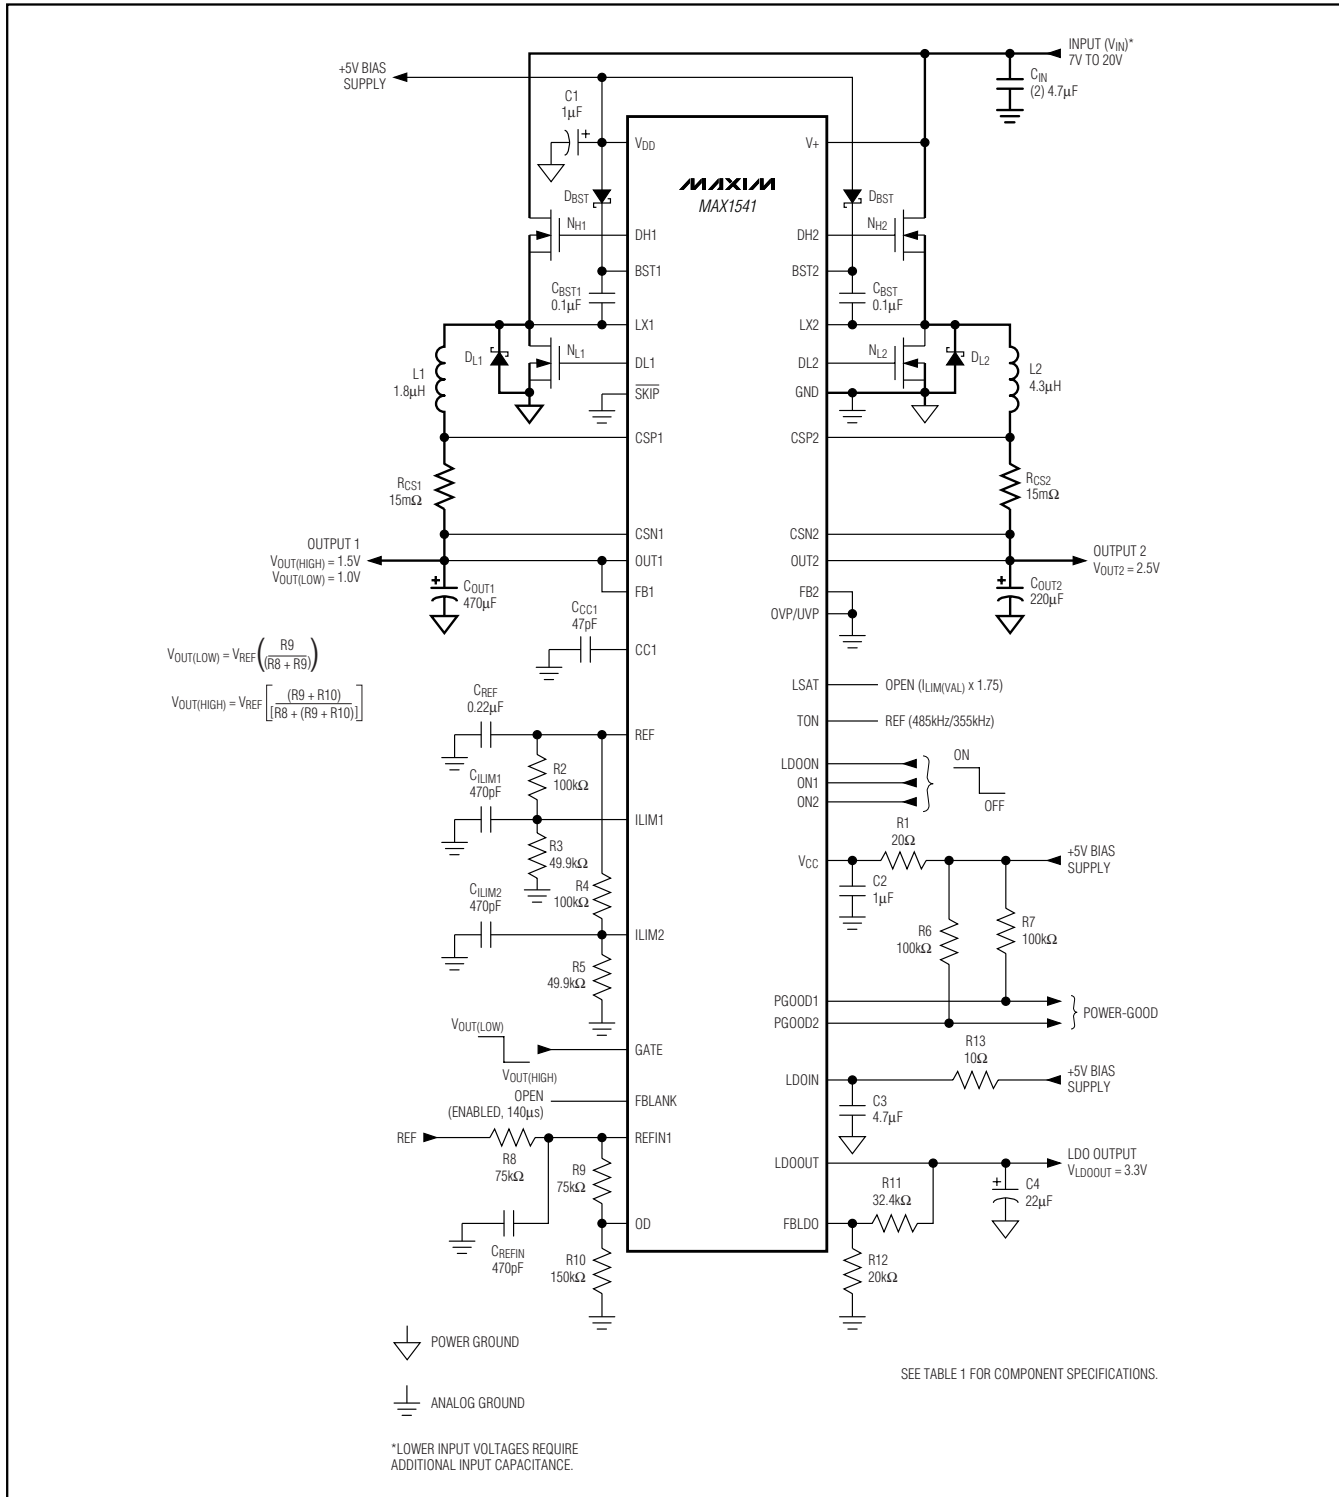

Figure 12. MAX1541 Standard Application Circuit
The MAX1541 regulates FB1 to the voltage set at REFIN1. By changing the voltage at REFIN1, the MAX1541 can be used in applications that require dynamic output-voltage changes between two set points. Figure 12 shows a dynamically adjustable resistive voltage-divider network at REFIN1. Using the GATE signal and open-drain output (OD), a resistor can be switched in and out of the REFIN1 resistor-divider, changing the voltage at REFIN1. A logic high on GATE turns on the internal N-channel MOSFET, forcing OD to a low-impedance state. A logic low on GATE disables the N-channel MOSFET, so OD is high impedance. The two output voltages (FB1 = OUT1) are determined by the following equations:
voltage during dynamic transitions. With the additional capacitance, the REFIN1 voltage slews between the two set points with a time constant given by  $R_{EQ} \times C_{REFIN1}$ , where  $R_{EQ}$  is the equivalent parallel resistance seen by the slew capacitor. Looking at Figure 12, the time constant for a positive REFIN1 voltage transition is:
For the MAX1541, the linear regulator supports Dual Mode operation to allow the selection of a 5V output voltage without requiring external components (Figure 1). Connect FBLDO to GND for a fixed 5.0V output. The linear regulator's output voltage can be adjusted from 1.25V to 5.5V using a resistive voltage-divider (Figure 12). The MAX1541 regulates FBLDO to a 1.25V feedback voltage. The adjusted output voltage is: